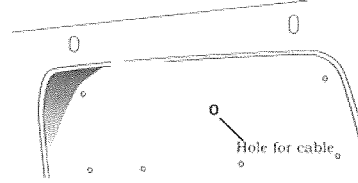

Fig. 2
3. With the license plate off, check if there are pre-existing holes through which the cables from the camera can be passed through to the boot of the vehicle as in Fig. 2. If there are no pre-existing holes carefully drill a hole of sufficient diameter to allow the cables to be passed into the interior of the vehicle (through a rubber grommet), and seal the hole with silicone to avoid water leakage.